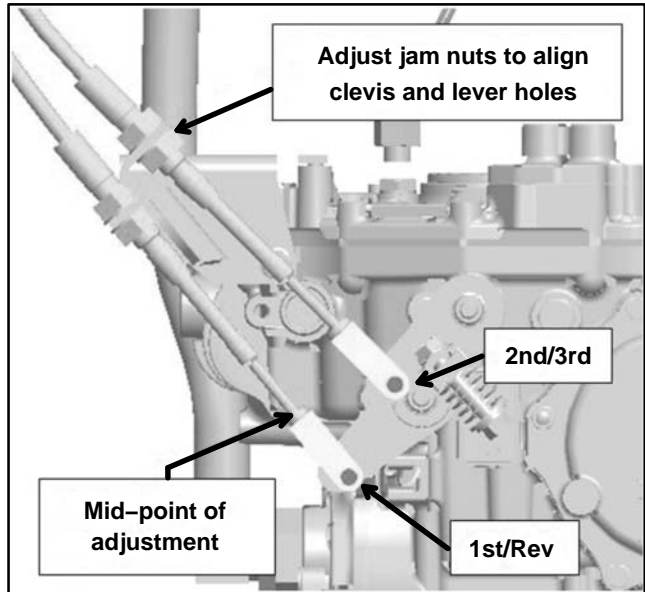

Figure 2
2. Remove cotter pins and clevis pins that secure shift cable clevises to transaxle shift levers (Fig. 2).